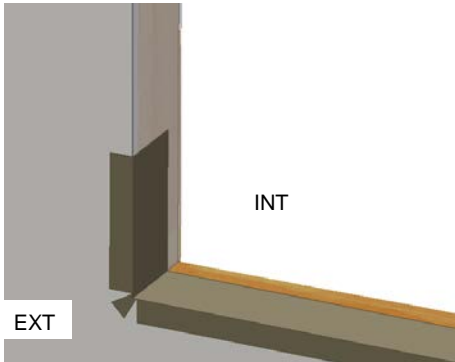

Fig. 6
- D) Apply sill flashing to the rough opening as shown below. (Fig. 6)